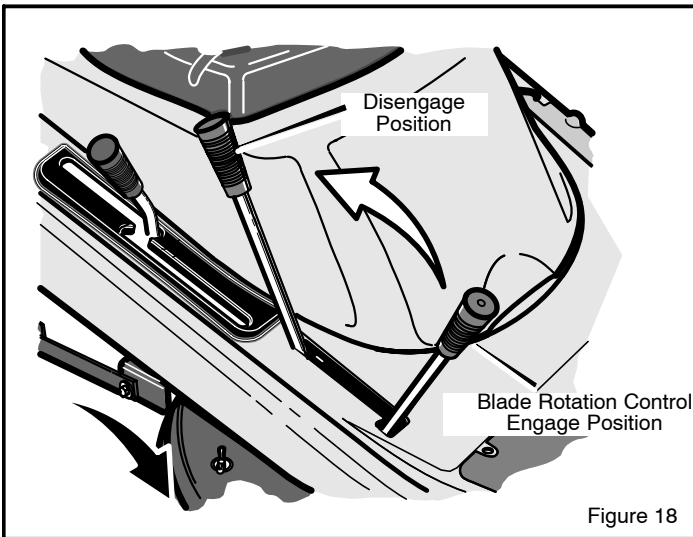

Figure 18
2. Move the **blade rotation control** to the **DISENGAGE** position (Figure 18).